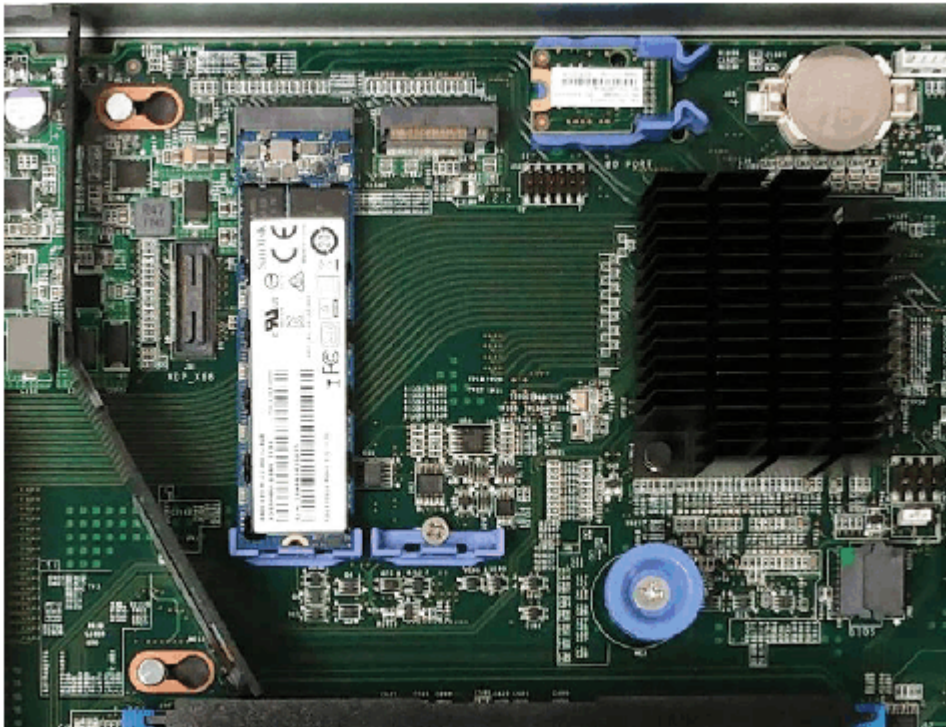

Figure 96. Locating the TPM
6. Locate the TPM, which is between the boot drive and CMOS battery, as shown in Figure 96 on page 143.